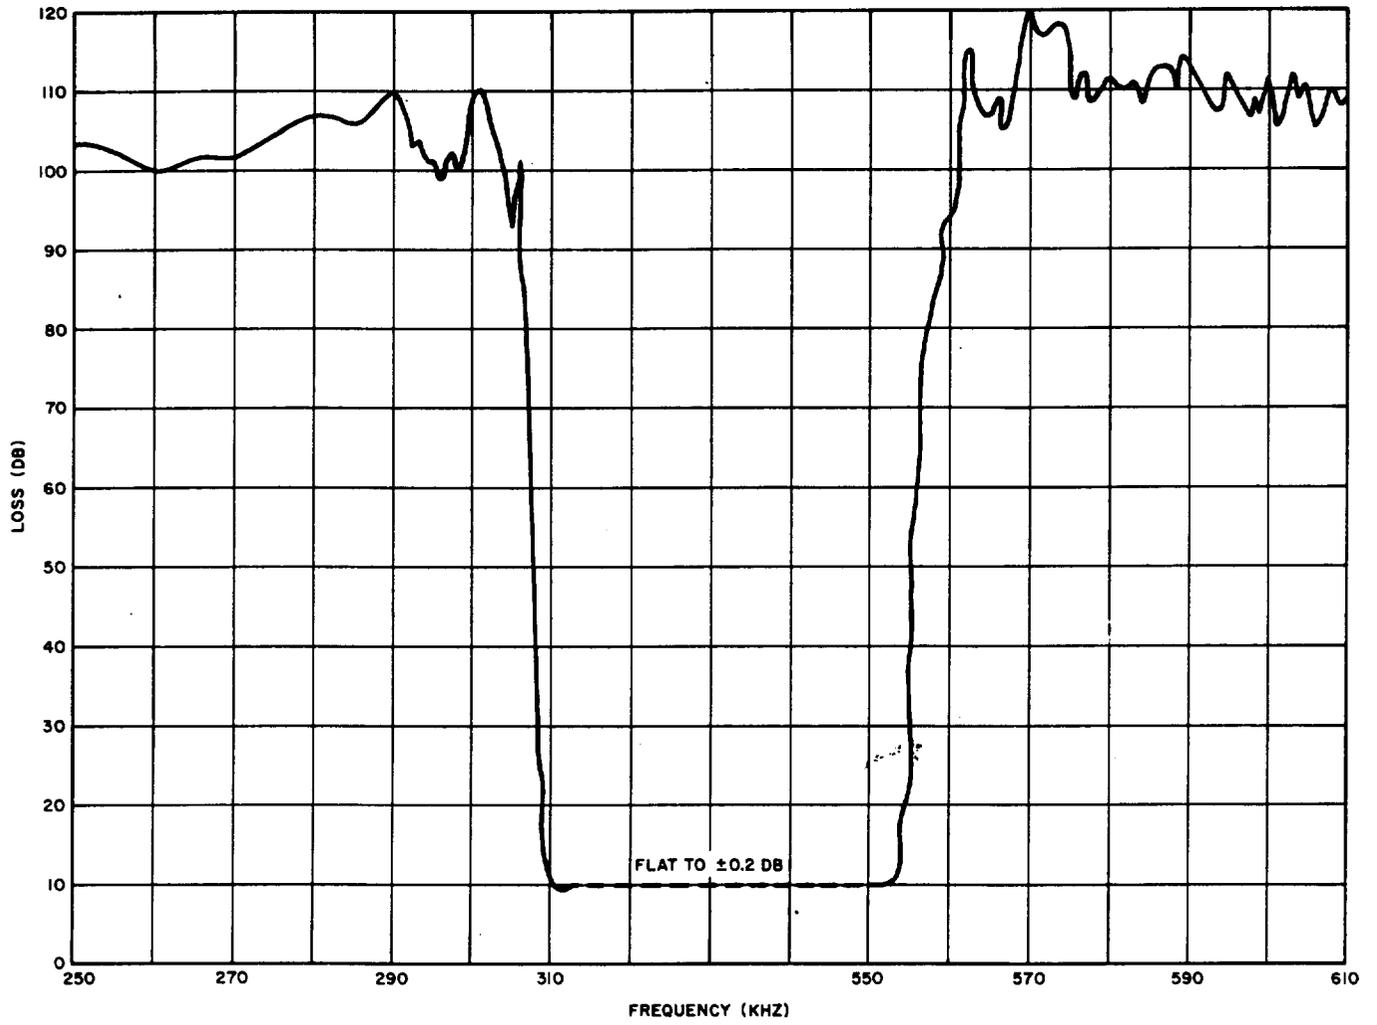

Fig. 3—4250( ) C3 Supergroup Connector, Typical Loss Characteristic
**2.03** The 1106A filter used in the connector passes frequencies between 312 and 552 kHz with a flat loss of approximately 12 dB (the insertion loss is shown in Fig. 3). It also suppresses previous line or terminal pilots, or other energy at 308 and 556 kHz to enable reuse of these frequency slots.